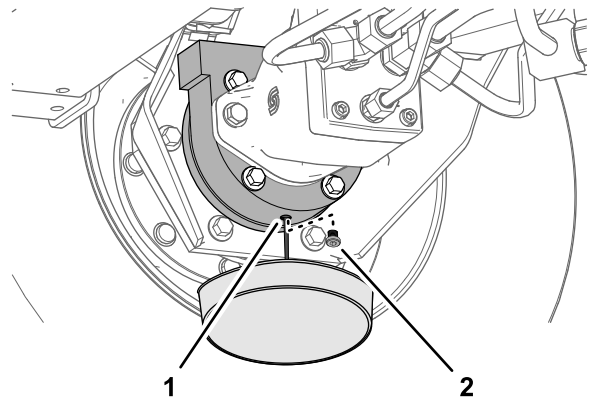

Figure 69
6. Place a drain pan under the brake housing, remove the drain plug, and allow the oil to fully drain (Figure 69).